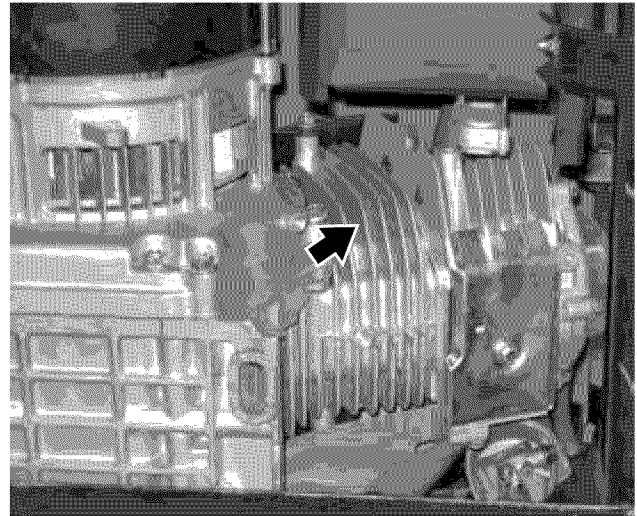

Figure 45 – Engine Cooling Fins
**Clean All Engine Cooling Fins** – Use a damp rag and a brush to loosen and remove all dirt on or around the engine's cooling fins (see Figure 45).